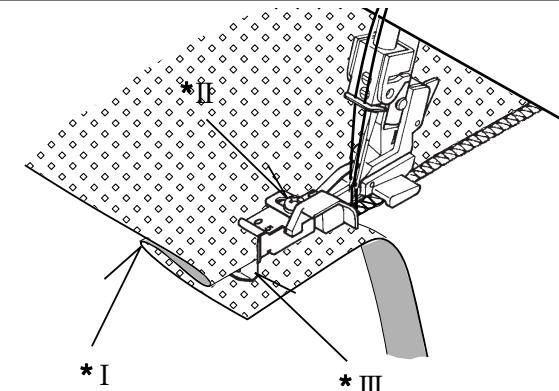
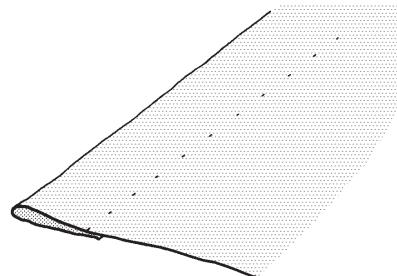

Fig. 2
Fig. 3
2. Place fabric under the presser foot with the \$wrong\$ side up. Feed the folded edge through the guide in the front of the foot and lower the presser foot lever. Try a stitch (or several stitches) on a spare piece of the actual fabric, and adjust the guide so that the needle just catches the fold. Adjust the guide by means of the small screw on the top of the foot – See Fig. 2.
3. When correctly set, sew the hem. The outside edge will be cut away by the machine – See also Fig. 2. After completion, open out and press again. The stitches should be almost invisible on the \$right\$ of the fabric – See Fig. 3.